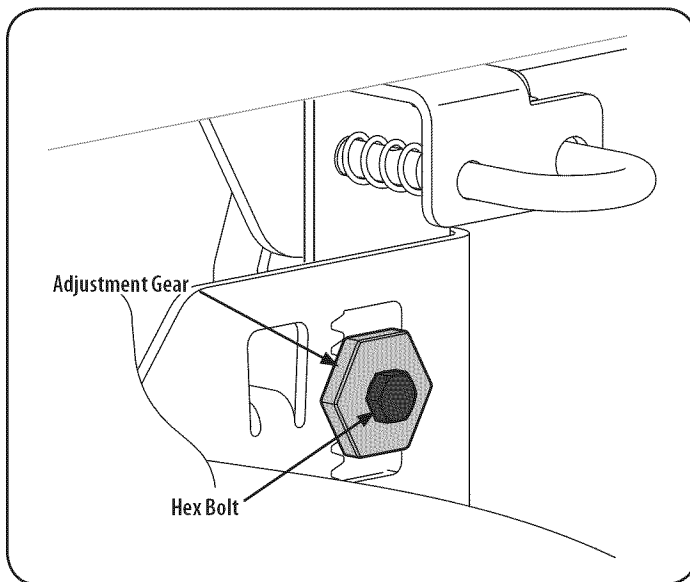

Figure 27
3. Loosen, but do NOT remove, the hex bolt on the rear left deck hanger link. See Figure 27.
4. Using a wrench, raise or lower the left side of the deck by turning the adjustment gear. See Figure 27.